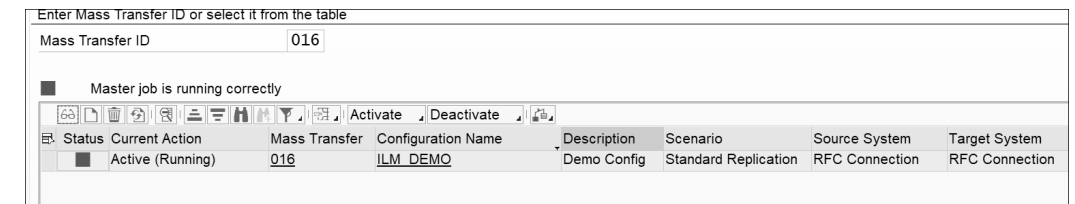

Figure 8.11 Transaction LTRC (LT Replication Server Cockpit)
2. Select the configuration you’ve created (in our example, it’s called **ILM_DEMO**), and then select **Display Configuration** (see Figure 8.11).